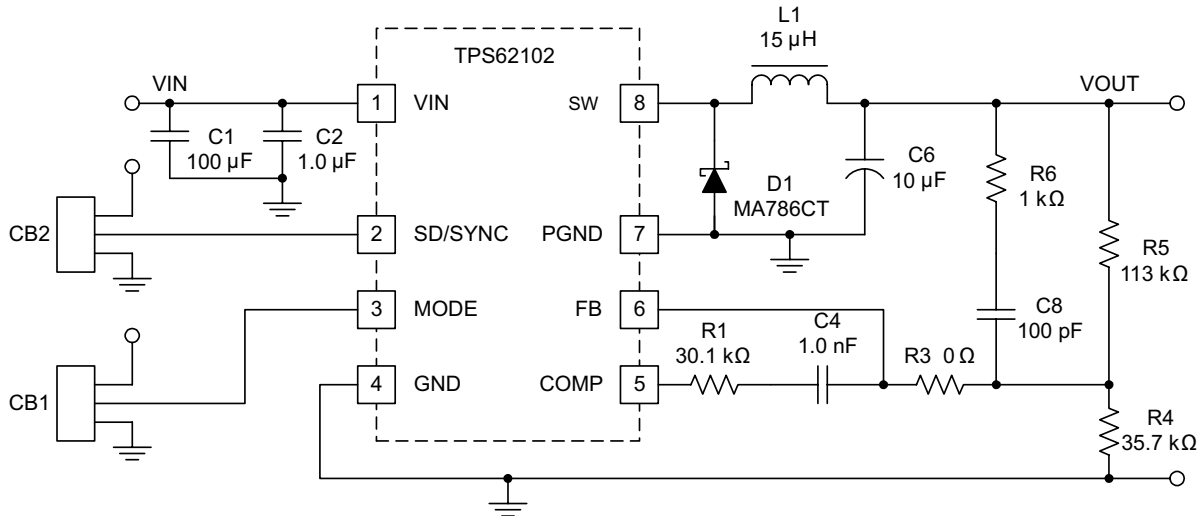

Figure 2-1. Evaluation Module Schematic
The TPS62102EVM–01 evaluation module is supplied fully assembled and ready to test. This evaluation module demonstrates an automatic mode switching converter that is capable of 500-mA output current at 3.3 V. The switching frequency of this converter is 1 MHz free running. Other versions of this converter IC are available that have nominal switching frequencies of 300 kHz, 600 kHz, and 2 MHz. Note that the fundamental frequencies have been chosen to minimize interaction with 455-kHz intermediate frequency (IF) circuits. The user needs to supply a power source and suitable load. Figure 2-1 is the schematic of the evaluation module as assembled. In this configuration, the converter should have a closed-loop bandwidth of approximately 40 kHz.